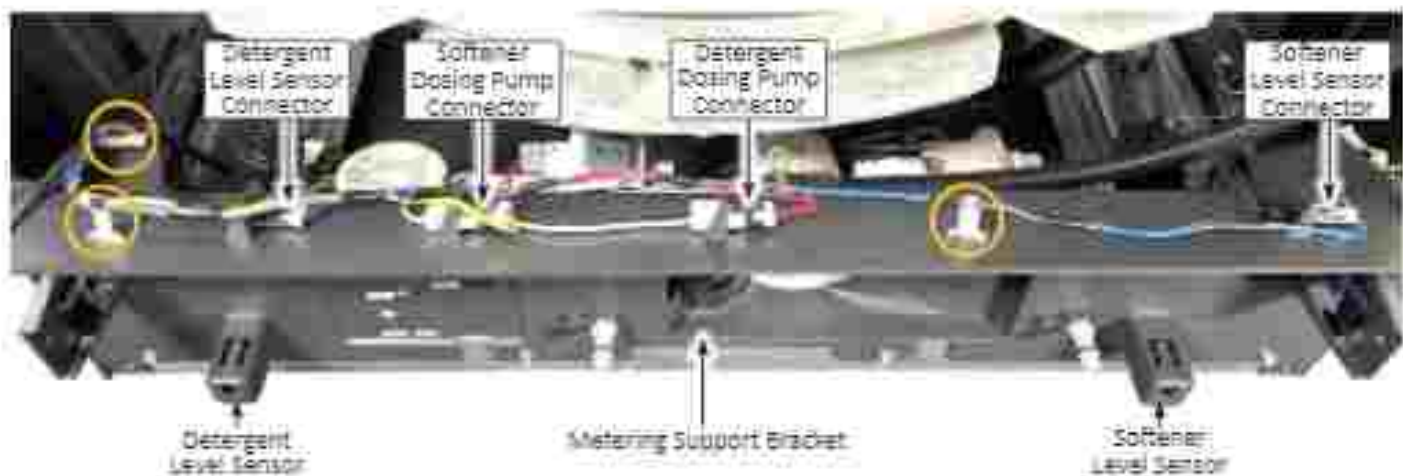

Figure 1 - Bulk Dispense Assembly
7. Disconnect the following connectors from the top of the Metering Support Bracket (see Figure 1 below):